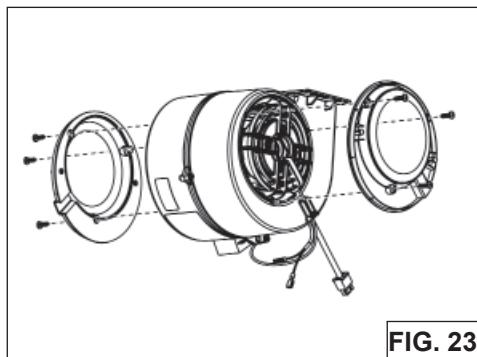

FIG. 23
2. Using no.6 x 1/2" screws, install one filter support on each side (provided) of the internal blower (Fig.23).